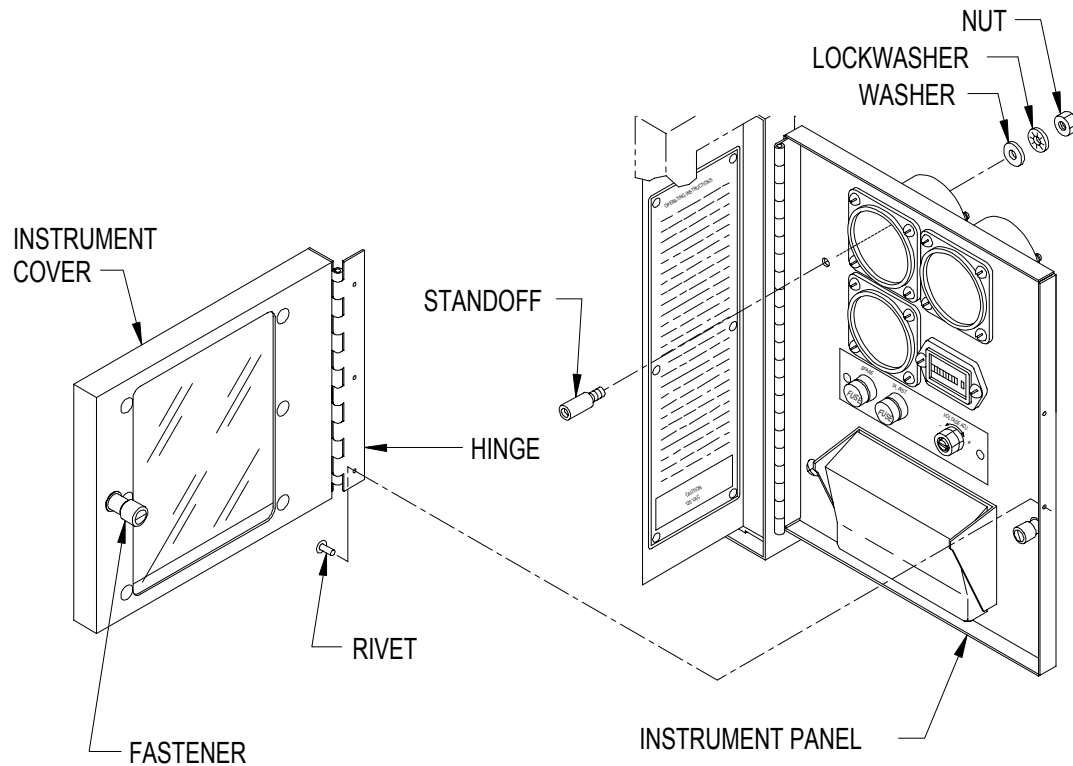

Figure 4-21. Instrument Cover
- (1) Shut down generator set.
- (2) Release instrument panel by turning fastener, open instrument panel slowly.
- (3) Release instrument cover by turning fastener, open instrument cover.
- (4) Remove rivets (Figure 4-21) and instrument cover from instrument panel.
- (5) If necessary, remove nut, lockwasher, washer, and standoff from instrument panel.
- (1) If removed, install standoff (Figure 4-21) on instrument panel with washer, lockwasher, and nut.
- (2) Install instrument cover on instrument panel with new rivets.
- (3) Close and secure instrument panel and instrument cover.